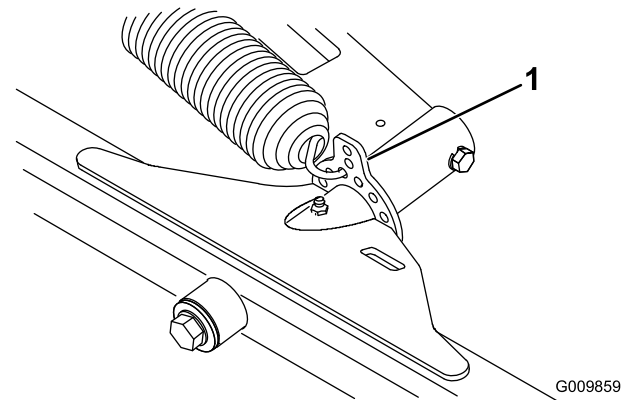

Figure 11
1. Hook the spring into the third hole from the top on the inboard side of both front cutting unit lift tabs and on the rear cutting unit lift tab (Figure 11).